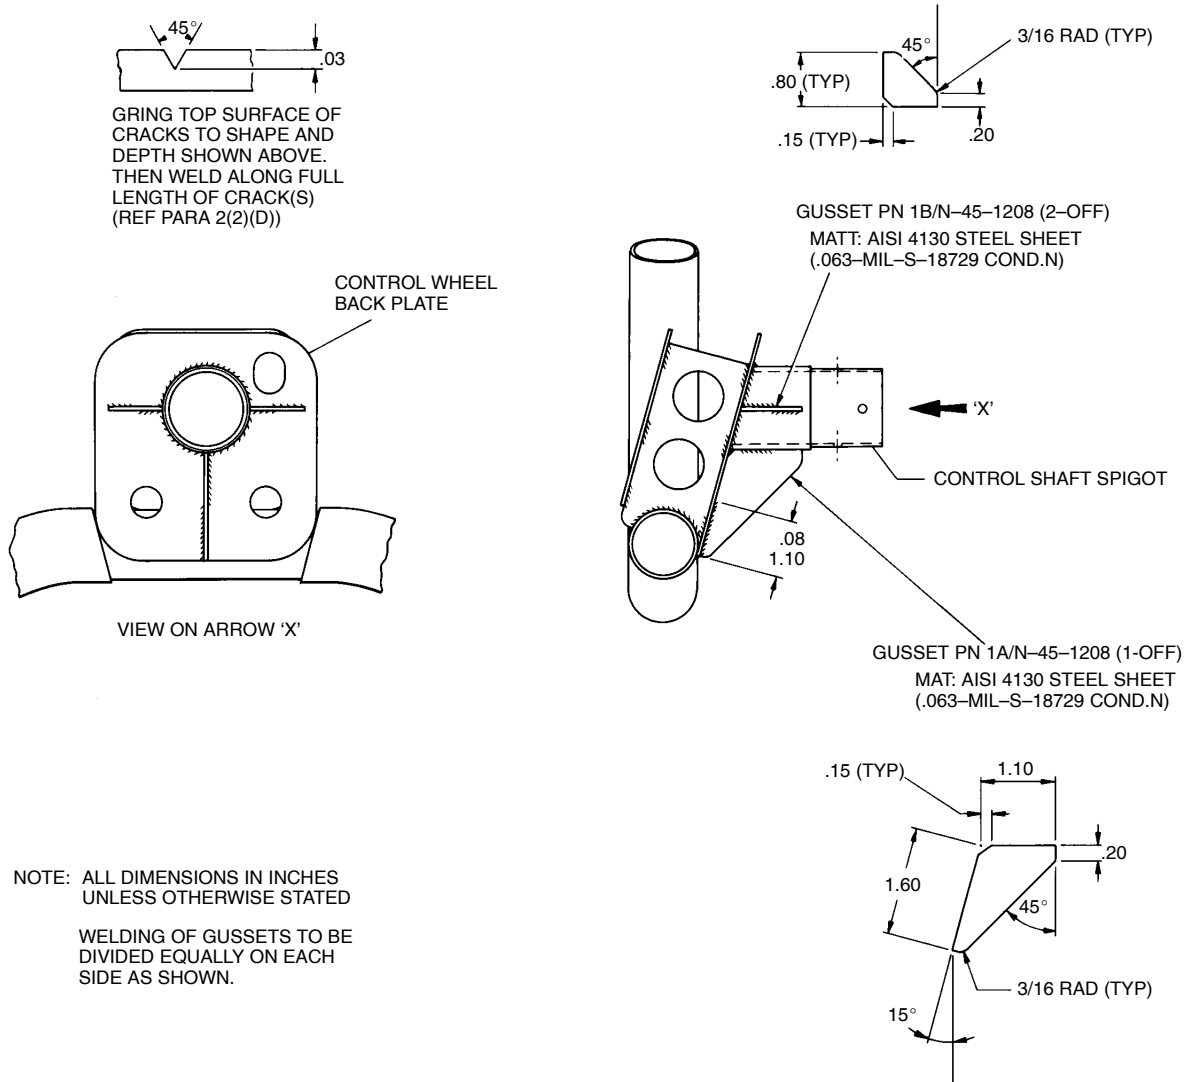

Figure 1 Rework of Control Wheel Sub-Assembly PN 1/N-45-1208
- (1) The repair and rework of damaged and unmodified control wheels as detailed herein may be accomplished by operators having appropriate facilities. Refer to Para 3.A. for material specification and to Figure 1 for manufacturing dimensions and quantities of parts.
- (2) As an alternative, distributors have agreed to operate a service whereby unmodified control wheels can be exchanged for modified control wheels. Details of associated costs and delivery times should be requested from the operator's distributor.
The control wheel sub-assembly PN 1/N-45-1208 is replaced by a modified sub-assembly PN 2/N-45-1208 (Alt. PN 1/N-03-734) incorporating reinforcing gussets welded between the shaft spigot and back plate (Ref Figure 1).
- (2) Rework of Control Wheel sub-assembly.
- (a) Remove the control wheel sub-assembly from the control wheel (Ref Para 2. Part B (1) (a) to (g)).
- (d) Where no cracking is present proceed to step (e). Where cracks are present, grind the top surface of the crack as shown in Fig 1 and weld along the crack.
- (1) Use only Tungsten Inert Gas (TIG) process.
- (2) Filler rod to be MIL-R-5632 class 1 (alt. BS 1453 type 2).
- (3) Stress relieving not required.
- (e) Locally manufacture gussets and weld gussets to the control wheel sub-assembly as shown in Fig 1, taking care to avoid heat damage to the black plastic coating on the wheel arms.
- (1) Pre-Mod N579 control wheel assemblies being modified by replacement will require one control wheel sub-assembly PN 2/N-45-1208 (Alt. PN 1/N-03-734) for each control wheel assembly.
- (2) Pre-Mod N579 control wheel assemblies whose control wheel sub-assembly's PN 1/N-45-1208 are to be reworked 'in the field' will require the gussets (Ref Fig 1) to be locally manufactured from AISI 4130 (MAT: .063-MIL-S-18729 COND N) steel sheet.
Refer Figure 1.